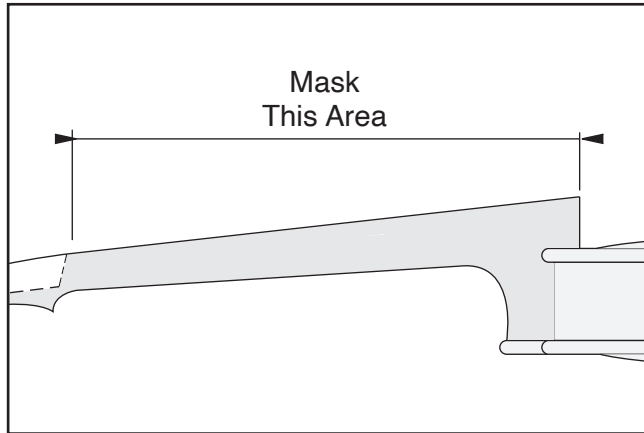

Figure 5. Masking tape on neck of violin.
1. Apply masking tape to top of neck, and trim any tape overhang (see **Figure 5**).